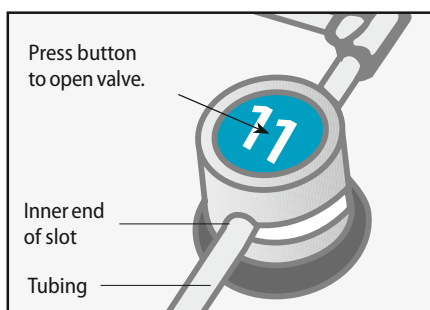

Figure 4-3.4: Correctly inserted tubing
- If the tubing has to be adjusted after a valve has been closed, do not pull the tubing without pressing the valve button to open the valve (see Figure 4-3.4).
1. Load the tubing into valve no. 4. Confirm that the tubing is placed securely in the valve opening (see Figure 4-3.4). Pay particular attention to the area between valves nos. 4 and 5 (see Figure 4-3.5).